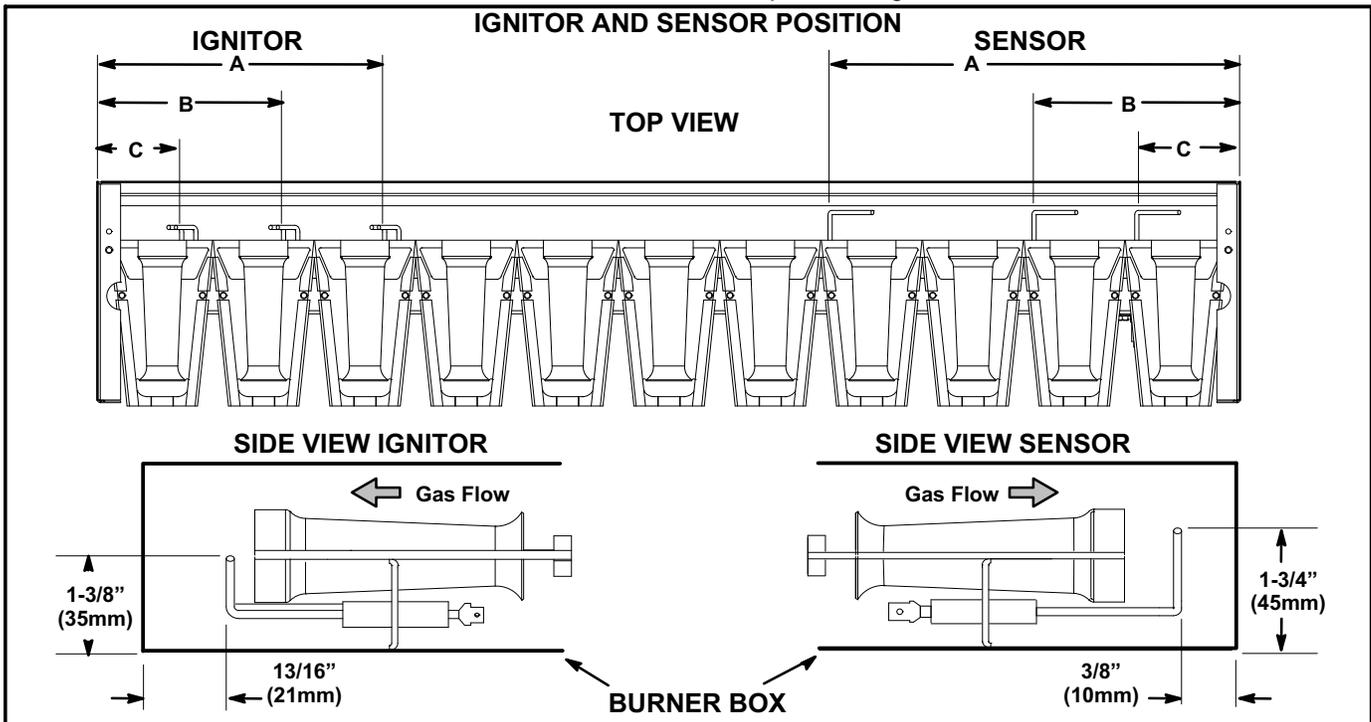

FIGURE 43
- 5- Check the alignment of the ignitor and the sensor as shown in figure 43 and table 23.